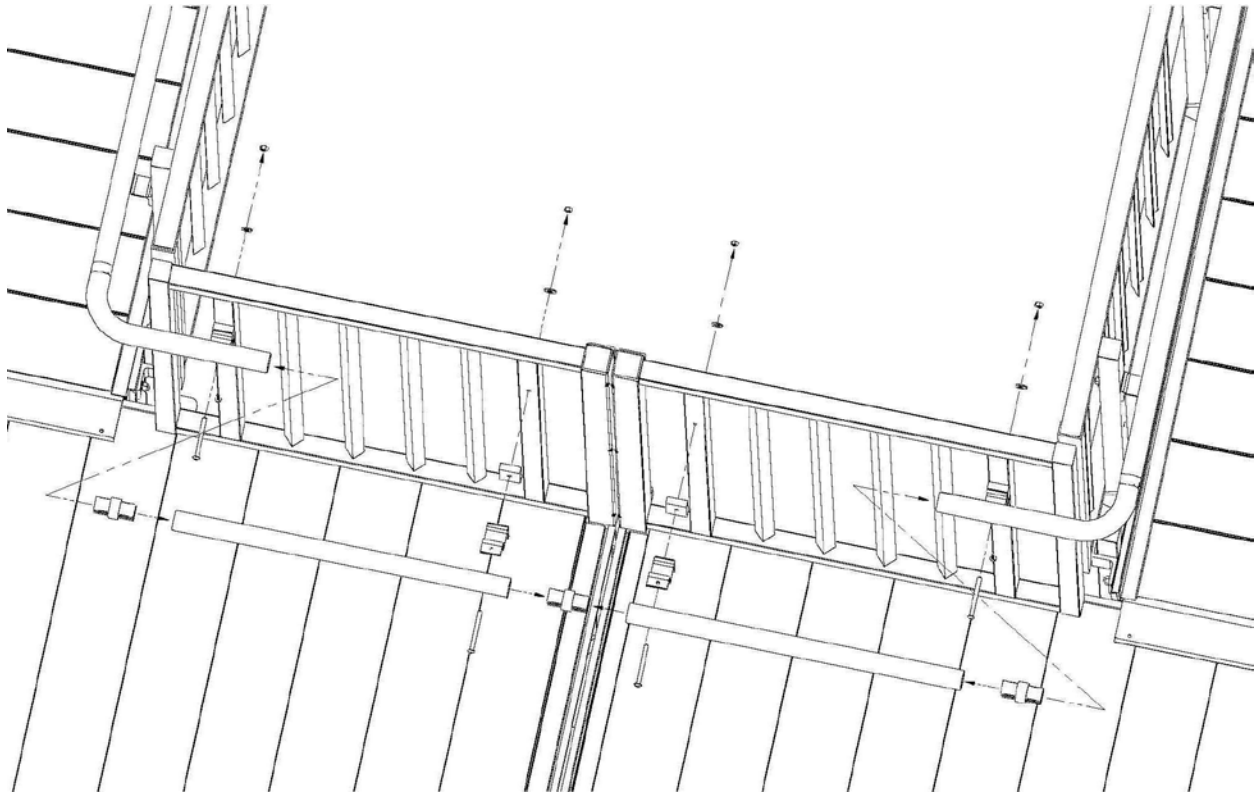

Fig. 6
- 4.3 Using additional ring joiners, connect the handrail extension stubs (provided with the guard filler sections for the 5' x 7' and 5' x 8' platforms) to the elbows and in the center. Trim the handrail extension stubs and elbows as needed (Fig. 6).